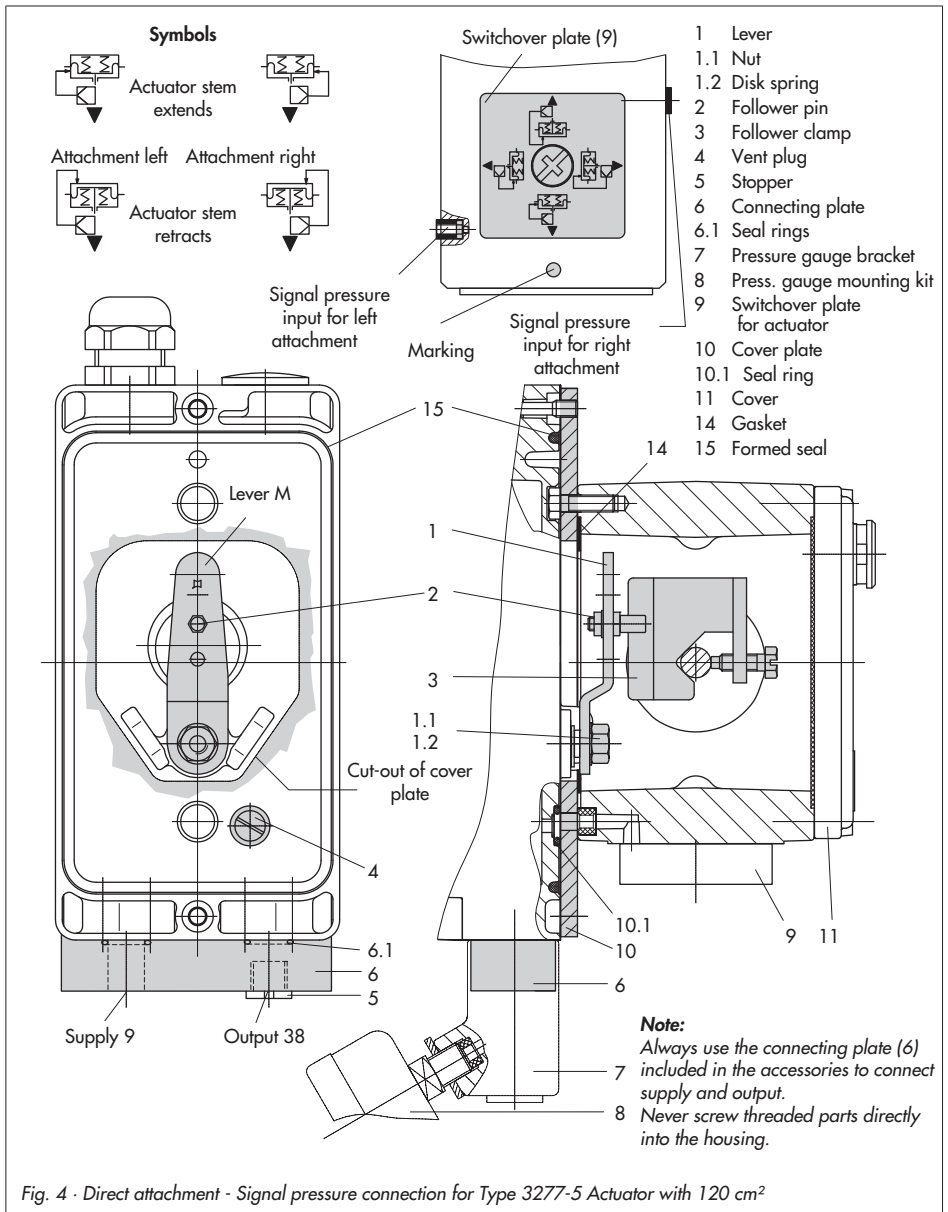

Fig. 4 · Direct attachment - Signal pressure connection for Type 3277-5 Actuator with 120 cm2
1. Mount connecting plate (6) or pressure gauge bracket (7) with pressure gauges onto the positioner, making sure both seal rings (6.1) are seated properly.
2. Remove vent plug (4) on the back of the positioner and close the signal pressure output "Output 38" on the connecting plate (6) or on the pressure gauge bracket (7) with the stopper (5) included in the accessories.
3. Place follower clamp (3) on the actuator stem, align and screw tight so that the mounting screw is located in the groove of the actuator stem.
4. Mount cover plate (10) with narrow side of the cut-out opening (Fig. 4, left) point-